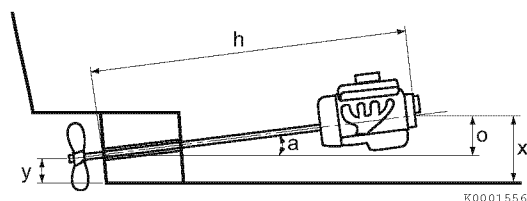

Figure 5-15
1. Determine the forward-to-aft positions “o” and “y” of the propeller shaft center line as shown (Figure 5-15).